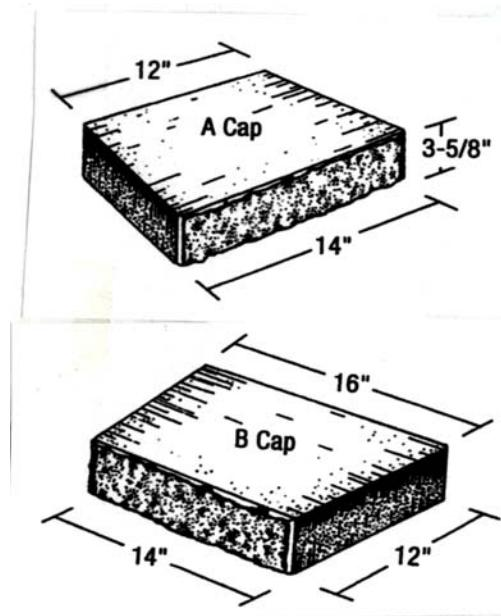

Figure 7. Type A and Type B cap units used to cap straight, convex or concave concrete block retaining walls.
8. Capping – Two cap unit types may be used to finish installed walls. Cap units may be set back, flush, or set out as much as one inch from the face of the wall. Alternate Type A and Type B caps on straight wall sections (Figure 7). Use only Type A caps on convex walls and Type B caps for concave walls. Secure caps using a concrete adhesive.